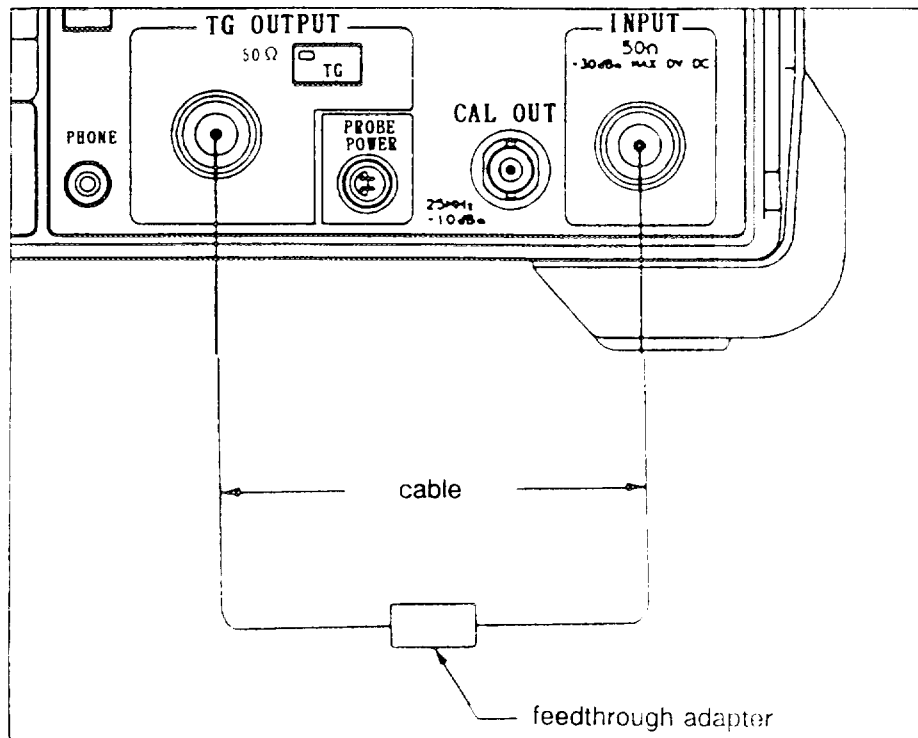

Figure 4-22 Connecting with Through State
- ② Set up the test cables and feedthrough adapter as shown below (Figure 4-22)